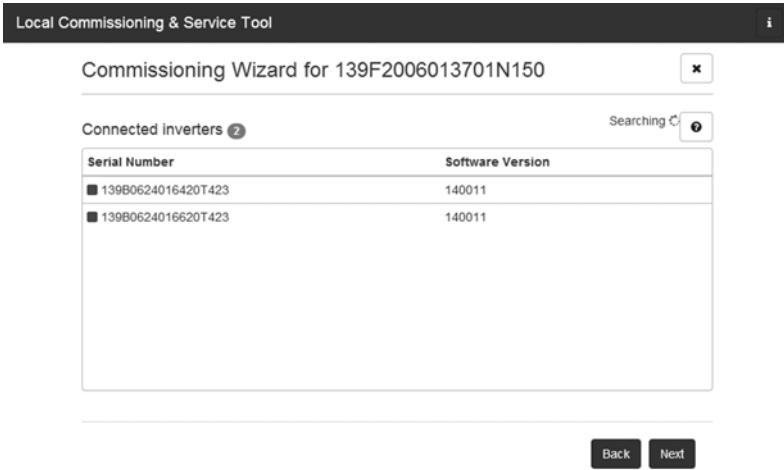

Figure 5.5 LCS tool - list of the connected inverters
6. A list of the identified inverters of the selected Inverter Manager is displayed. See figure 5.5.